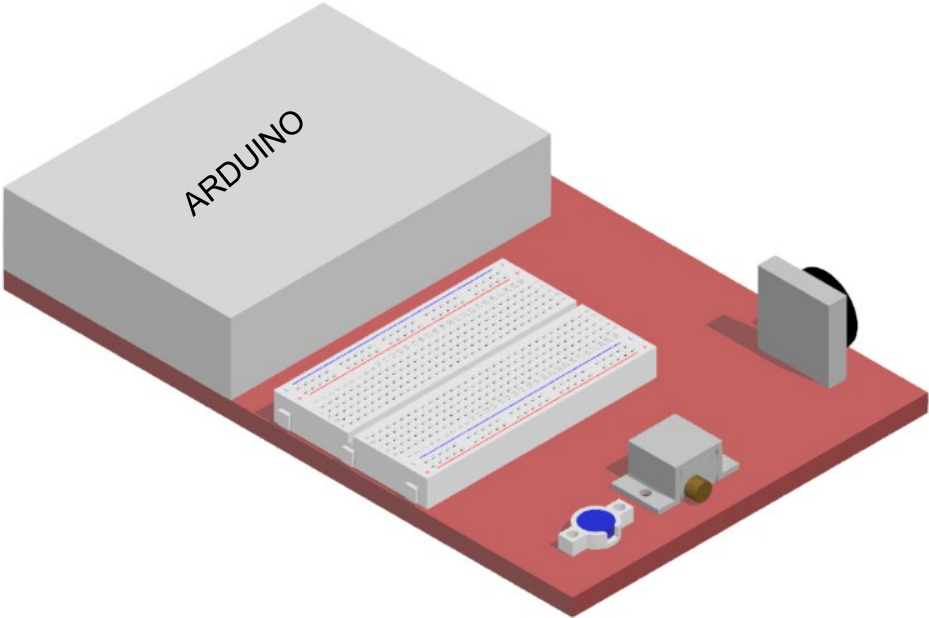

Figure 1: Full Assembly
7. Use double-sided tape to secure the breadboard and Arduino on the baseplate (Figure 1).
8. You will now have something that looks like Figure 1. It is ok to change the placement of the Arduino and breadboard if you wish.